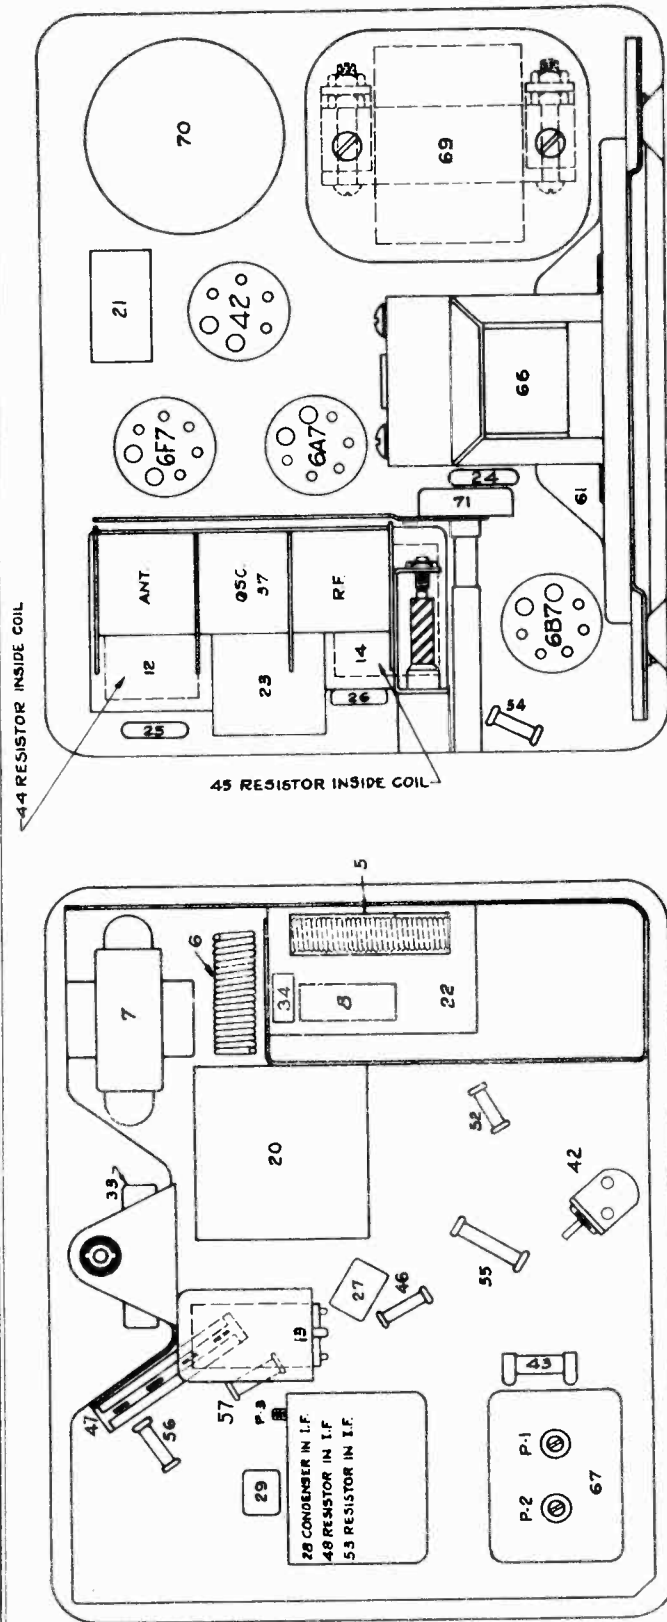

FIG. 2 PARTS LAYOUT - Bottom View
- (d) Peak the I.F. trimmer P-3 for the 2nd I.F. coil shown on Figure 2.
- (e) Then peak trimmers P-2 and P-1 of the first I.F. coil also shown on Figure 2.
- (g) Readjust the parallel trimmers for the "R.P." and "ANT" sections of the gang condenser (shown on Fig. 2) for maximum output. DO NOT disturb the oscillator trimmer (middle section) as this is adjusted at 1530 K.C. only, and any further adjustments at this point will affect both the tuning range of the receiver and the tracking of its circuits.